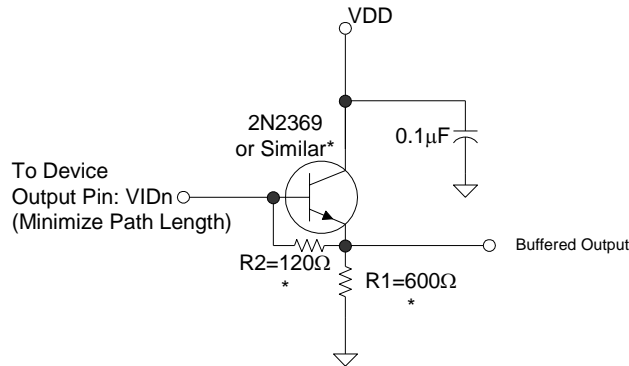

Figure 6: Typical Output Bias/Buffer Circuit
1. A current sink must be supplied for each output. Load capacitance should be minimized so as not to limit bandwidth. See Figure 6. Choose values optimized for specific operating frequency, but R2 should not be less than 75Ω.